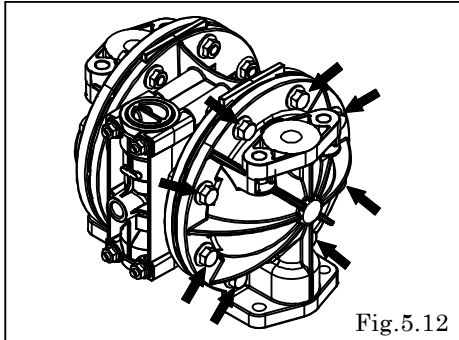

Fig.5.12
- When installing the out chambers, please tighten the bolts in diagonal pattern. At this point, please firstly fasten all the bolts evenly to a certain extent, and repeat a few fastening rounds with the even force before finally tightening to the specified torque. [Fig.5.12]